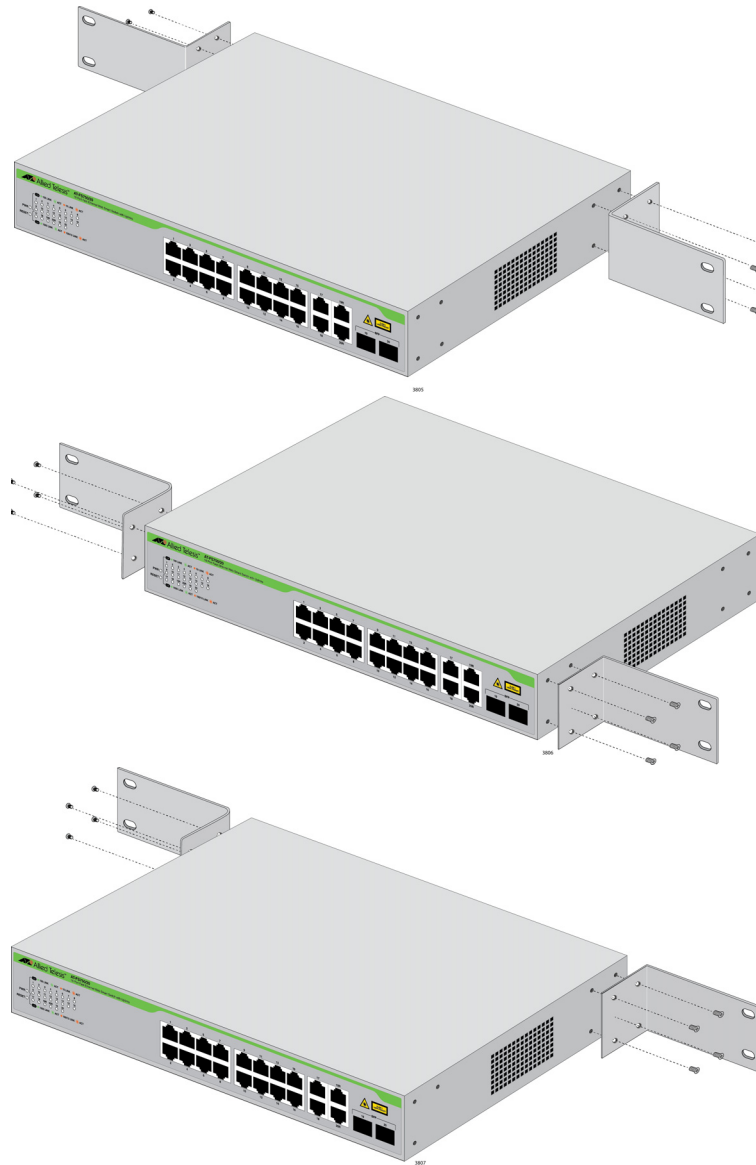

Figure 6. Attaching the Rack-Mount Brackets to the Switch
2. Attach the two rack mount brackets to the sides of the switch using the bracket screws that come with the unit. See Figure 6.